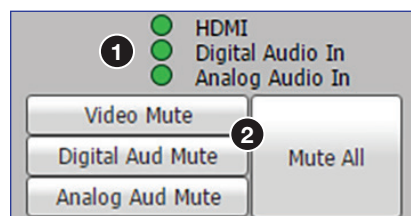

Figure 18. Active Inputs, Mute, Audio, and Auto-image
- **LEDs** — Indicate the presence, absence, and status of an HDMI signal and the audio types selected (see figure 18, ①).
- **Mute buttons** — Click the desired button (②) to mute video only (**Video Mute**), digital audio only (**Digital Aud Mute**), analog audio only (**Analog Aud Mute**), or both audio and video (**Mute All**).